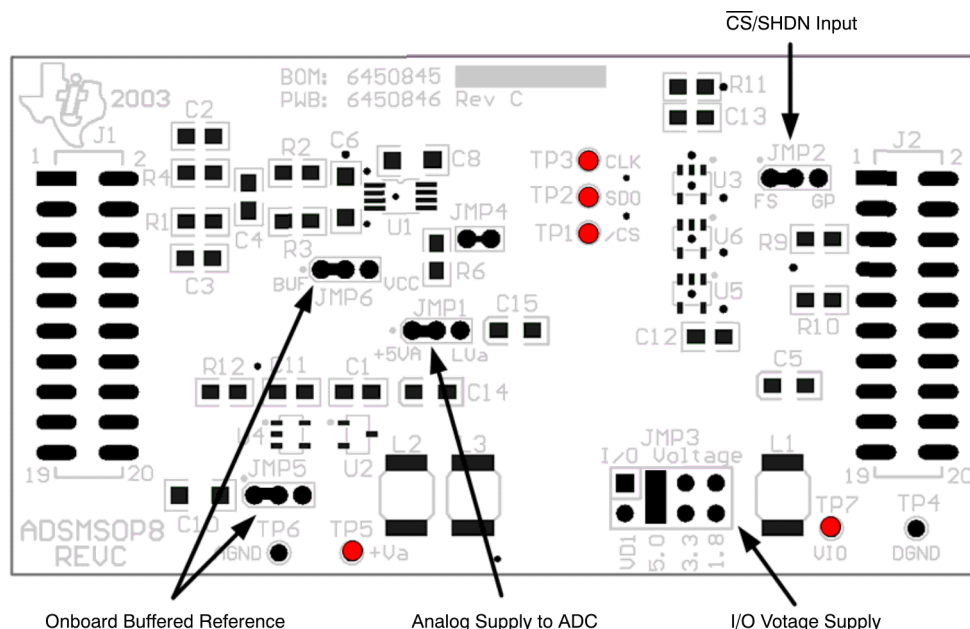

Figure 3. MSOP-8 EVM Board Initial Setup
When power is supplied to J3, JMP3 allows for one of four different dc voltages to be applied to the digital sections of the ADC. Review the schematic (located at the end of this document) and PWB silkscreen (see Figure 3) for further details.
- Step 3. Set the jumpers on the MSOP-8 EVM board as shown in Figure 3 (note that these jumpers are the factory-configured settings for the MSOP-8 EVM):
- (a) Set I/O Voltage jumper block JMP3 as shown in Figure 3.
- (d) Set up VCC jumper block JMP1 as shown in Figure 3.